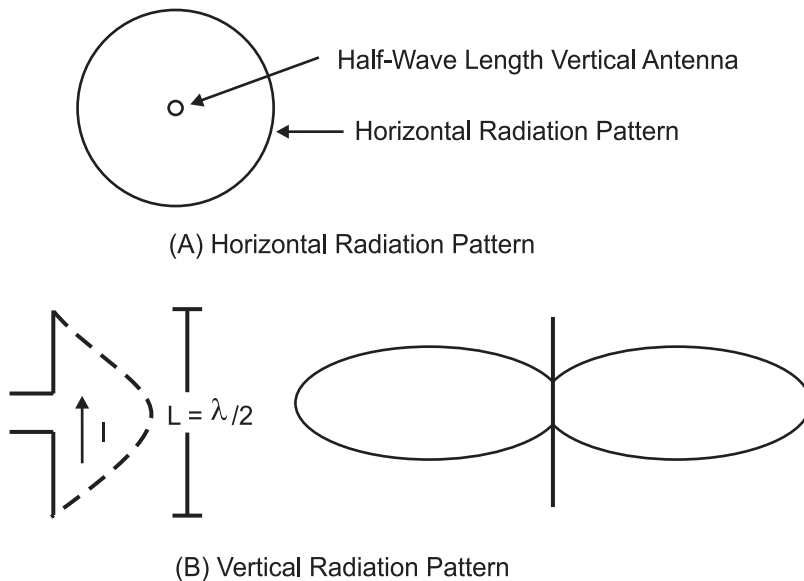

Figure 25.9: Horizontal and vertical patterns of a half-wave dipole antenna
Figure 25.9 (A) shows the top view of the horizontal pattern produced by a half-wave dipole antenna. Here, the dipole antenna is located in the centre. Horizontal pattern is a circular pattern giving signal levels in all azimuthal directions. Interpretation of horizontal pattern helps in knowing the field strength received along various radials while plotting coverage contours of any radio station. Figure 25.9 (B) shows the vertical pattern of a half-wave dipole. The main lobe of the vertical pattern looks like the number '8' spread horizontally. As can be seen in the figure, radiation along the vertical axis is practically nil. Vertical pattern helps in understanding the formation of side lobes and taking necessary action in taking care of nulls in the coverage area.